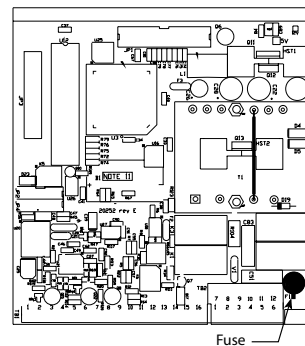

Figure 18: Fuse
7. Locate the Fuse F1 (see Figure 18) and unplug the fuse from its socket.